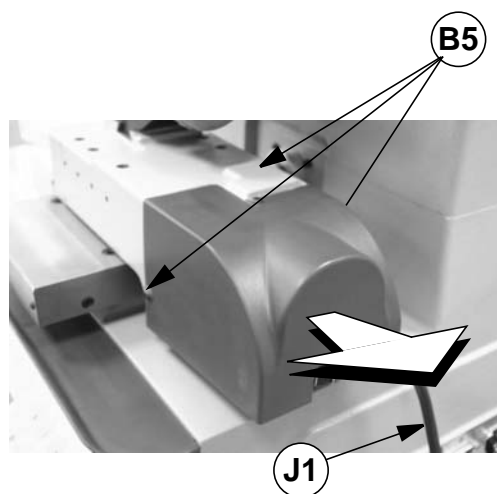

Fig. 42
- 3) disconnect the top axis connection wire (J1) from the carriage (fig. 42).
- 4) remove the top axis cover by unscrewing the 3 fixing screws (B5) and pull out in the direction shown (fig. 42).